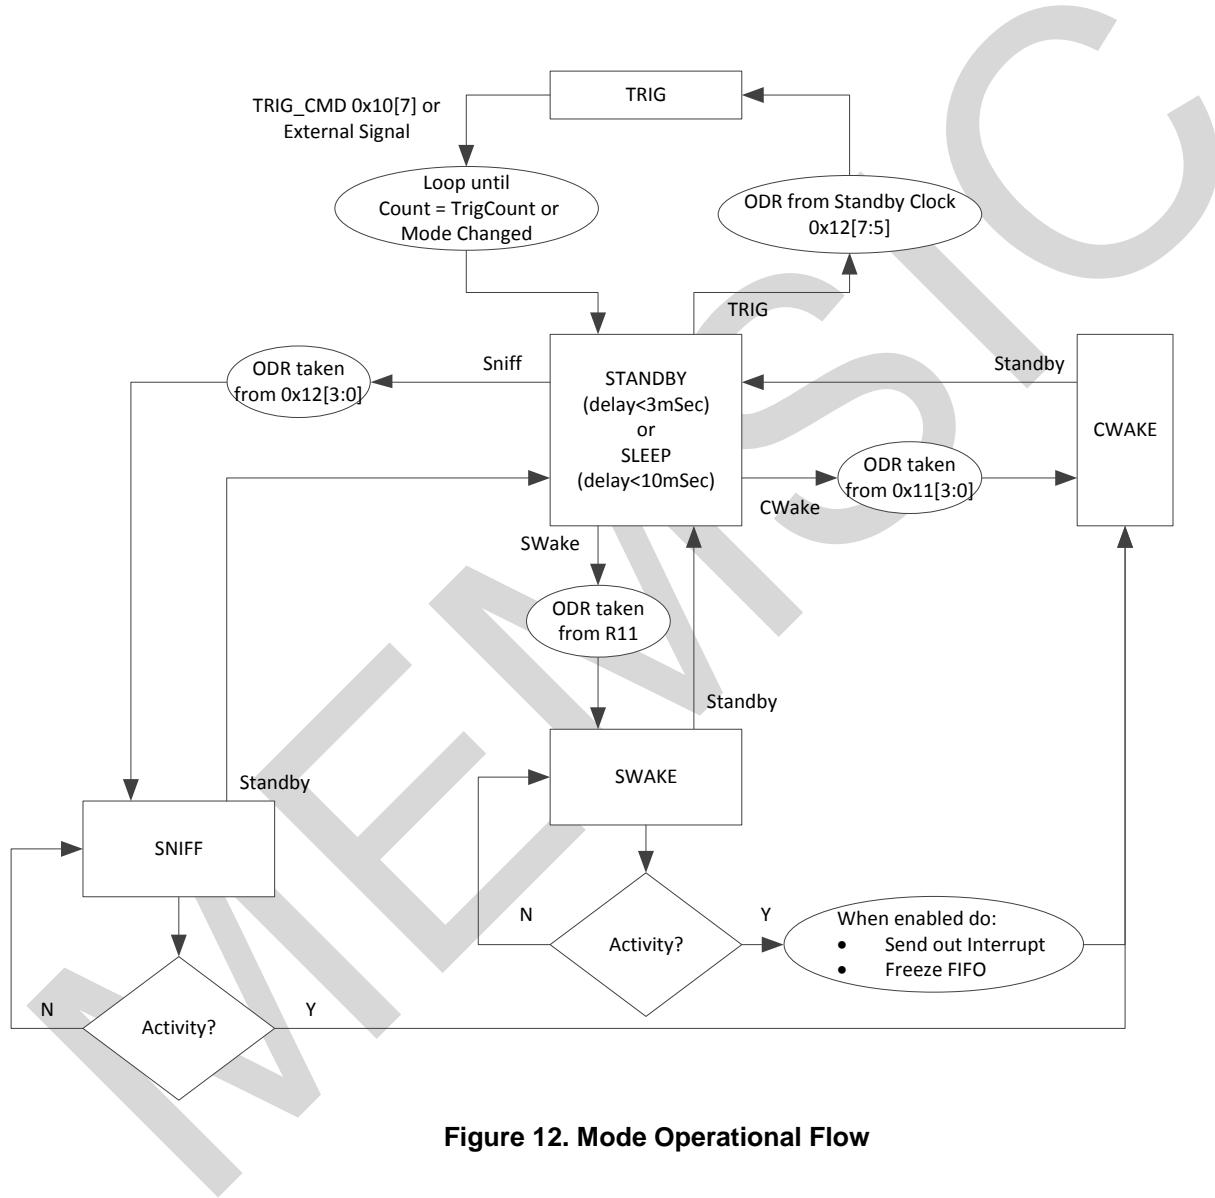

Figure 12. Mode Operational Flow
**Figure 12. Mode Operational Flow** shows the operational mode flow for the device. The device defaults to SLEEP mode following power-on. Mode transitions occur at an approximate rate of ~500Hz. Depending on the operation, the MODE State Machine may trigger events that auto-clear or set the MCTRL[2:0] bits in register 0x10[2:0] after a particular command is chosen.